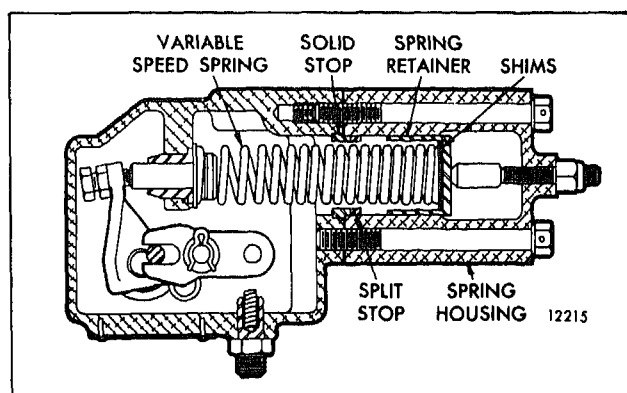

Fig. 5 - Locating of Shims and Stops
3. Refer to Table 1 and determine the stops or shims required for the desired full-load speed. Do not use more than four thick and one thin shim. A split stop can only be used with a solid stop (Fig. 5).